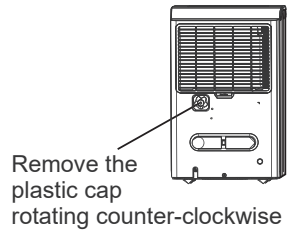
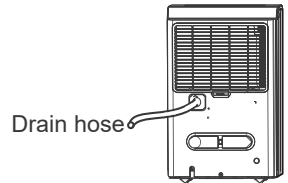

Fig. 9
Fig. 10
- Remove the plastic cap from the back drain outlet of the unit and set aside, then insert the drain hose through the drain outlet of the unit and lead the drain hose to the floor drain or a suitable drainage facility. (See Fig. 9 and Fig. 10)